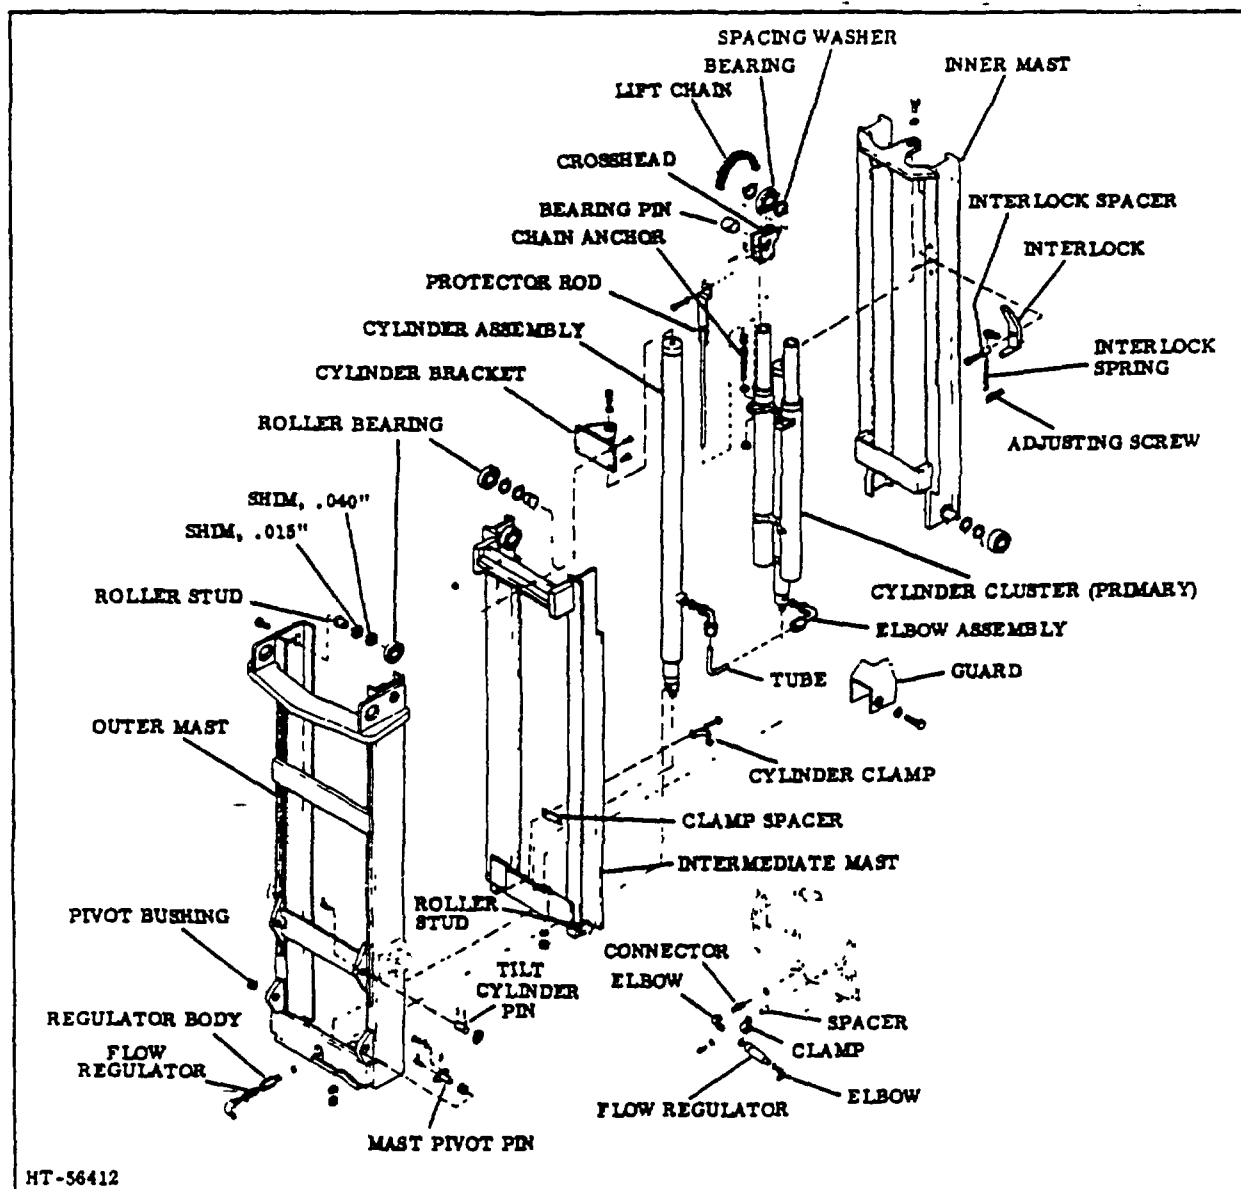

Figure 1. Tri-Max Mast (Cluster Cylinders)
2. Remove the cylinder bracket from the top support on the intermediate mast section, and disassemble and remove the channel restraint interlock assembly. (Refer to Figure 1.)